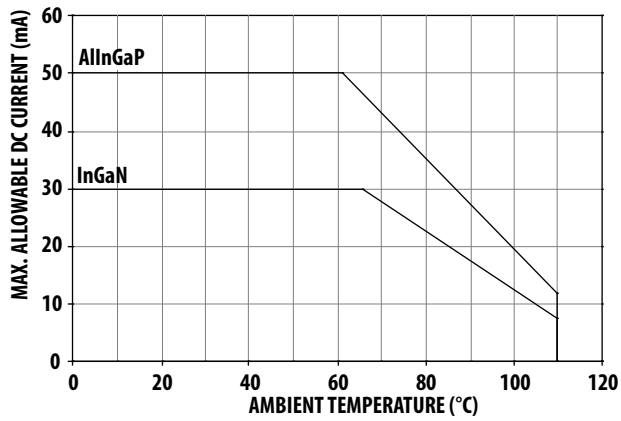
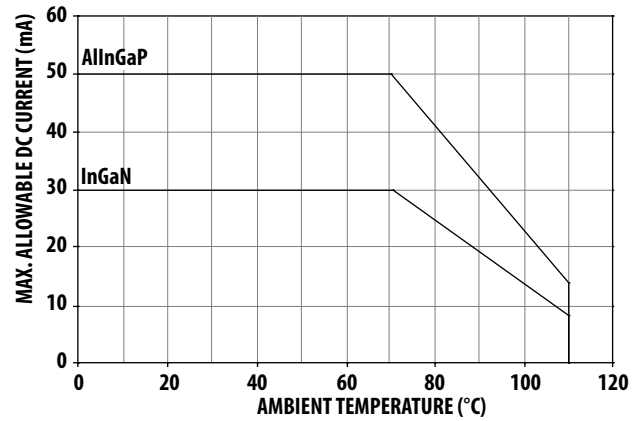

Figure 5a. Maximum forward current vs. ambient temperature.
Figure 5b. Maximum forward current vs. ambient temperature.
1. Derate linearly as shown in Figure 5a & 5b.
4. Refer to Figure 5a and figure 5b for more information